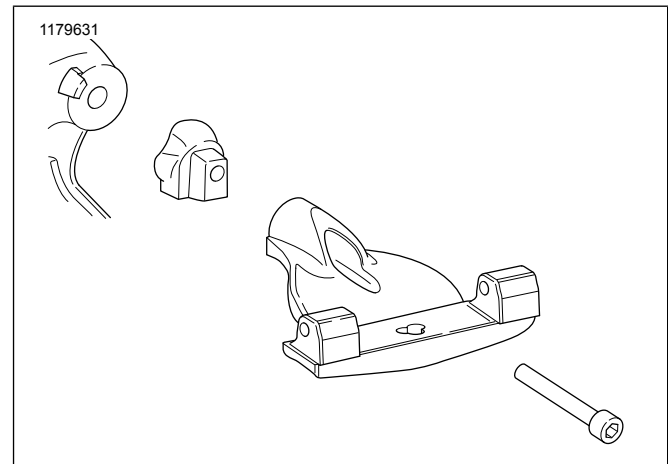
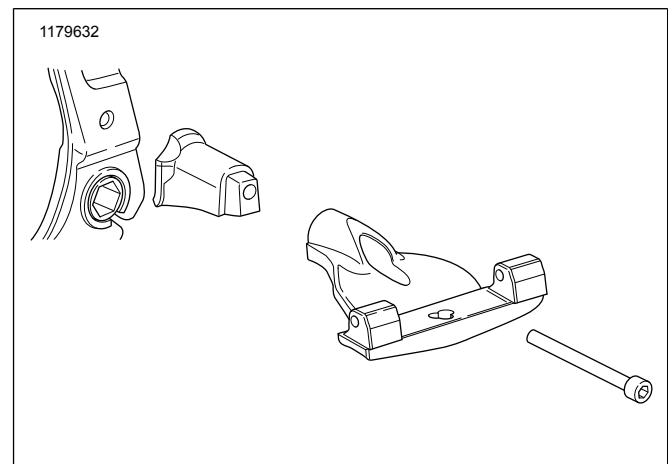

Figure 1. Right Side Installation: FXBR/S, FXBB, FLFB/S, FLSL, FXLR
Figure 2. Right Side Installation: FLSB, FLHC, FLDE
2. **For FXBR/S, FXBB, FLFB/S, FLSL and FXLR models,** see Figure 1. **For FLSB, FLHC and FLDE models,** see Figure 2. Position footboard mount. Apply Loctite 243 threadlocker to the socket head capscrew and insert it through the floor board assembly and proper adapter, and into the mounting hole.